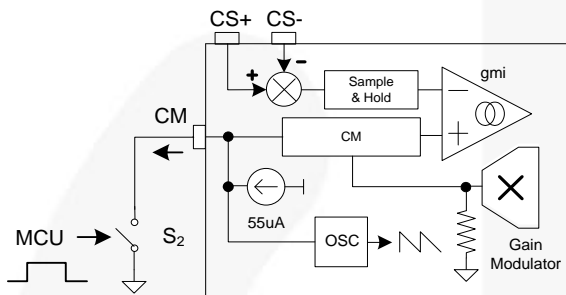
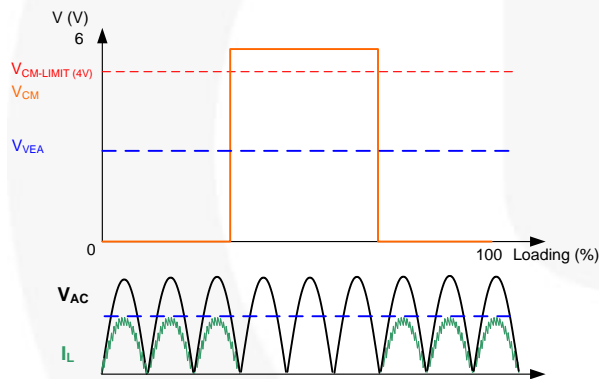

Figure 14. Channel Management by MCU
Figure 15. Channel Management by MCU
To disable the Channel Management (CM) function and control the channels with an external signal from the MCU, the configuration is shown in Figure 14. If  $V_{CM} > 4V$ , the channel is disabled. To enable the channel, make  $V_{CM} = 0V$ , as Figure 15 shows.